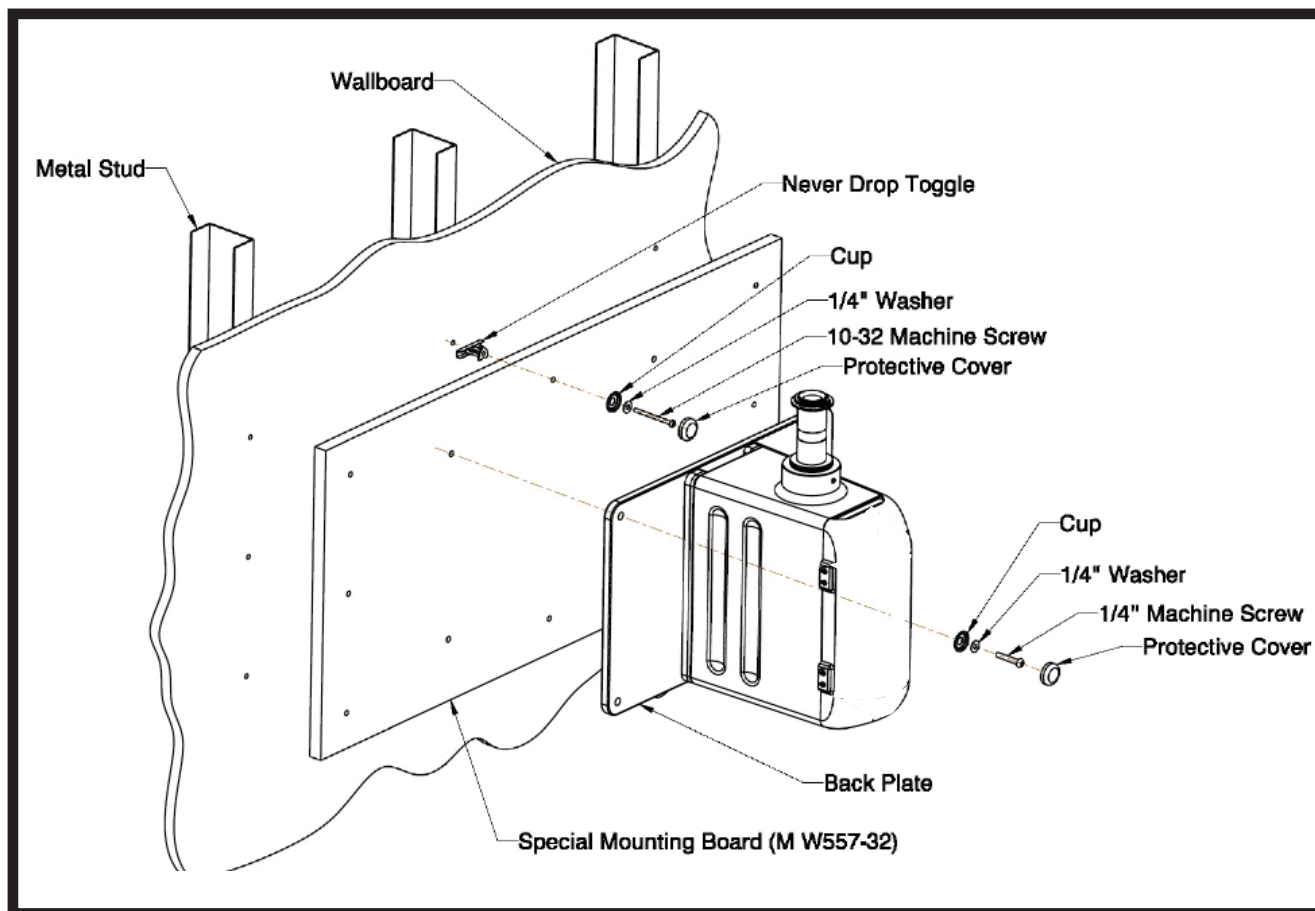

Figure 4-3. Back Plate Installation on Standard Spaced Metal Studs
3. Using the Wall Mount Board as a guide, mark the position of the top center hole, ensuring that the mark is in the center of the stud. It is recommended that a razor blade or other small, sharp object be used to verify sides of wall stud. This will ensure center is correctly marked. Refer to Figure 4-3.